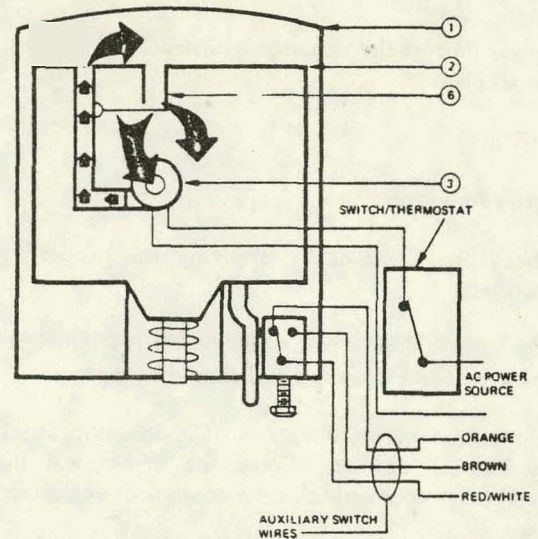

Figure 6. MA Series Actuator
Hydraulic actuators may be ordered with a built-in adjustable SPDT auxiliary switch (Figures 6 and 7). This switch must be ordered as part of the actuator and cannot be field installed. Note: For MP Series actuators only, the switch common wire is internally connected to the black power lead. Because of this, the switch must be wired to control the same voltage as the actuator itself. Switch rating is 10 amperes at 120/240 VAC. Leads are 18 inches except 24 VAC units which are 48 inches.
See Figures 6 and 7. The permanently sealed oil filled case (1) contains a movable hydraulic piston assembly (2) and an electric pump (3) for the hydraulic system. The pump generates a fluid pressure which is transmitted to the top of the piston. Opposing the hydraulic force is the spring of the valve or damper linkage.